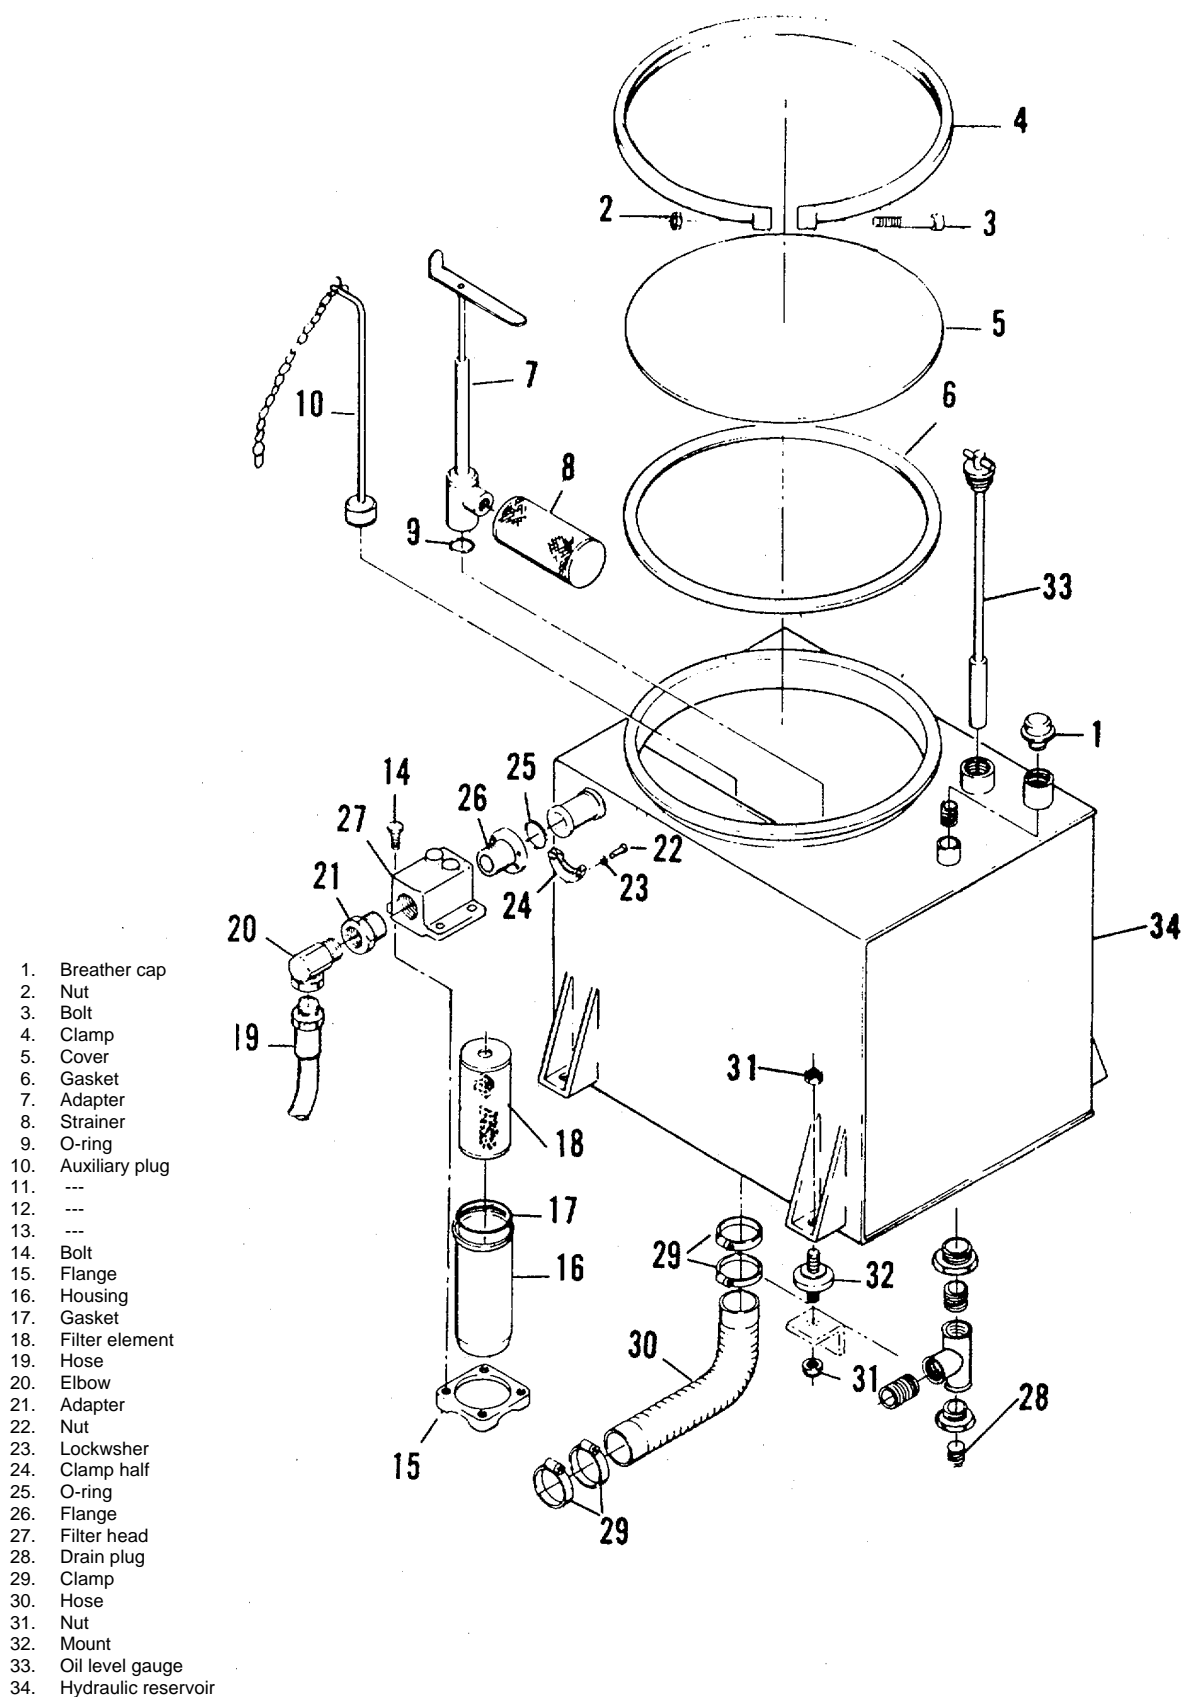

FIGURE 4-1. HYDRAULIC RESERVOIR
- a. Removal and installation. Remove the breather cap, refer to Figure 4-1 (Hydraulic Reservoir), From the top of the hydraulic reservoir by rotating the cap counterclockwise and removing. Installation is opposite of removal.